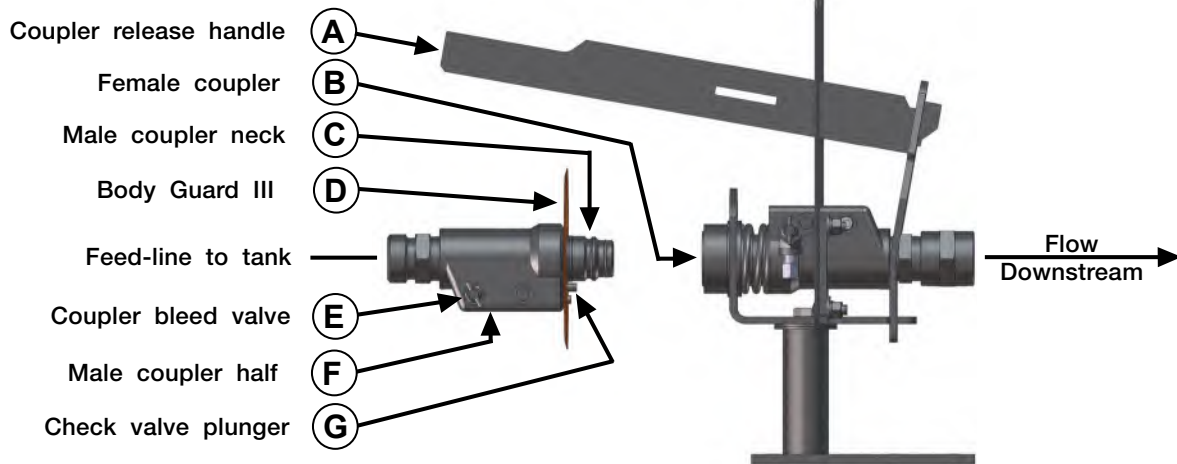

FIG. 4-2
2. Relieve pressure between male coupler (F) and first shutoff valve towards nurse tank by carefully opening coupler bleed valve (E). The Flo-Max coupler is designed to re-couple safely with pressure on the female coupler half (B). (FIG. 4-2)
NOTE: Leave coupler bleed valve (E) open for now. (FIG. 4-2)
3. While holding and pointing the hose and male coupler (F) downwind and away from your person, depress check valve plunger (G) with gloved finger to ensure proper operation (FIG. 4-2 & FIG. 4-3). Wipe foreign debris from coupler neck (C) with clean cloth.
4. Make certain BodyGuard III (D) is installed fully with slot oriented around check valve plunger (G) to protect against ammonia spray-back during coupling (FIG. 4-2 & FIG. 4-4).
5. Insert male coupler neck (C) into female coupler half (B) as far as possible (FIG. 4-2 & FIG. 4-4).
NOTE: Then, while applying insertion pressure, pull downward on coupler release handle (A) to complete the coupling process. Release handle (A) after engagement of coupler neck (C) (FIG. 4-2 & FIG. 4-5).
6. Lightly pull on male coupler (F) to ensure proper engagement.
7. Close bleed valve (E) and others if open. Open tank and hose valves just prior to applying ammonia.
1. After closing all valves, bleed pressure from male coupler half (F) by opening coupler bleed valve (E). Leave bleed valve (E) open. (FIG. 4-2)
2. Then, pull down on coupler release handle (A) and remove male coupler half (F).